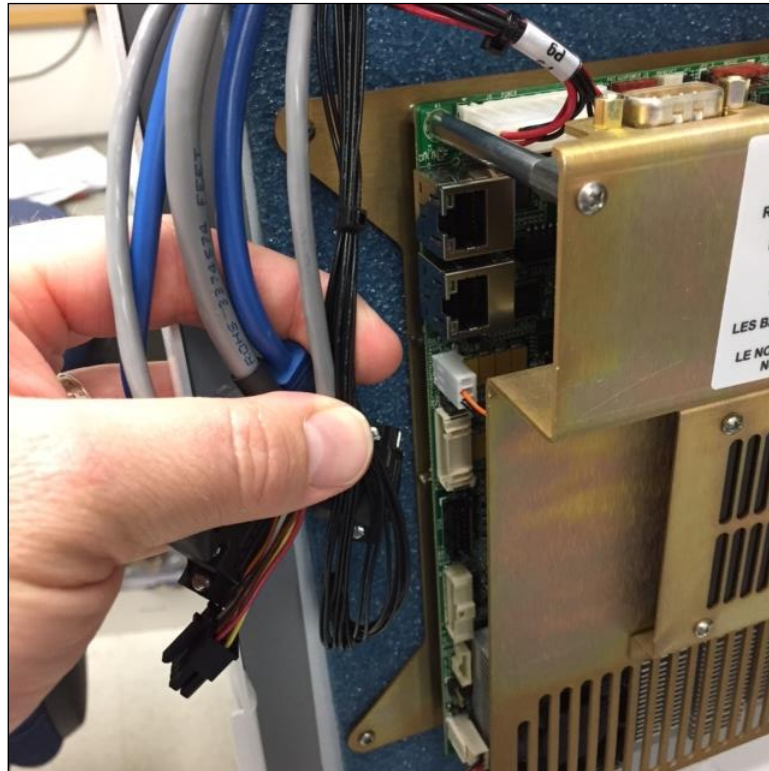

Figure 135. Disconnect VGA cable
4. Disconnect the black, multi-conductor Video Graphic Array (VGA) cable from the computer (Figure 135). The VGA cable connects to the black connector located approximately halfway down the left edge of the computer and labeled “VGA.”